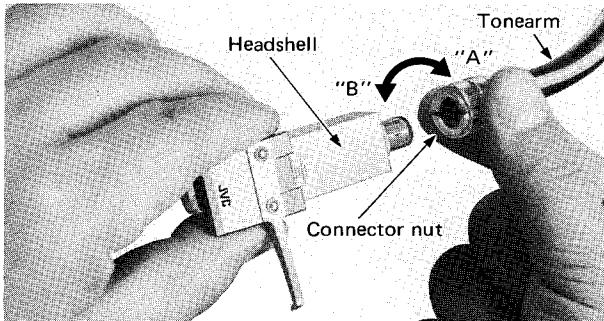

Fig. 3
• Removal and mounting of the headshell (See Fig. 3)